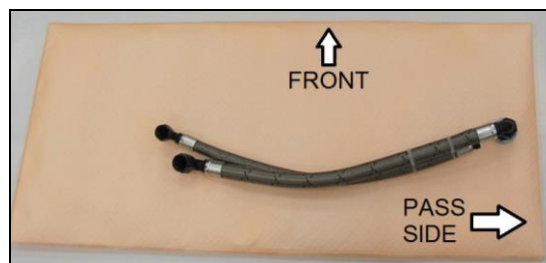

Figure 1
1. Lay the HydraMat out and attach an in-tank hose assembly (Figure 1). Tighten the 8AN fitting to 270-350 in./lbs. Tighten the 10AN fitting to 360-430 in./lbs.